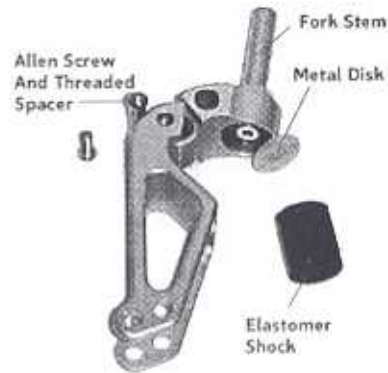

Figure 27
1. Remove allen screws from hinge and push out the threaded spacer. Note: Use a 5/32 allen wrench for removing the threaded spacer [Figure 27].